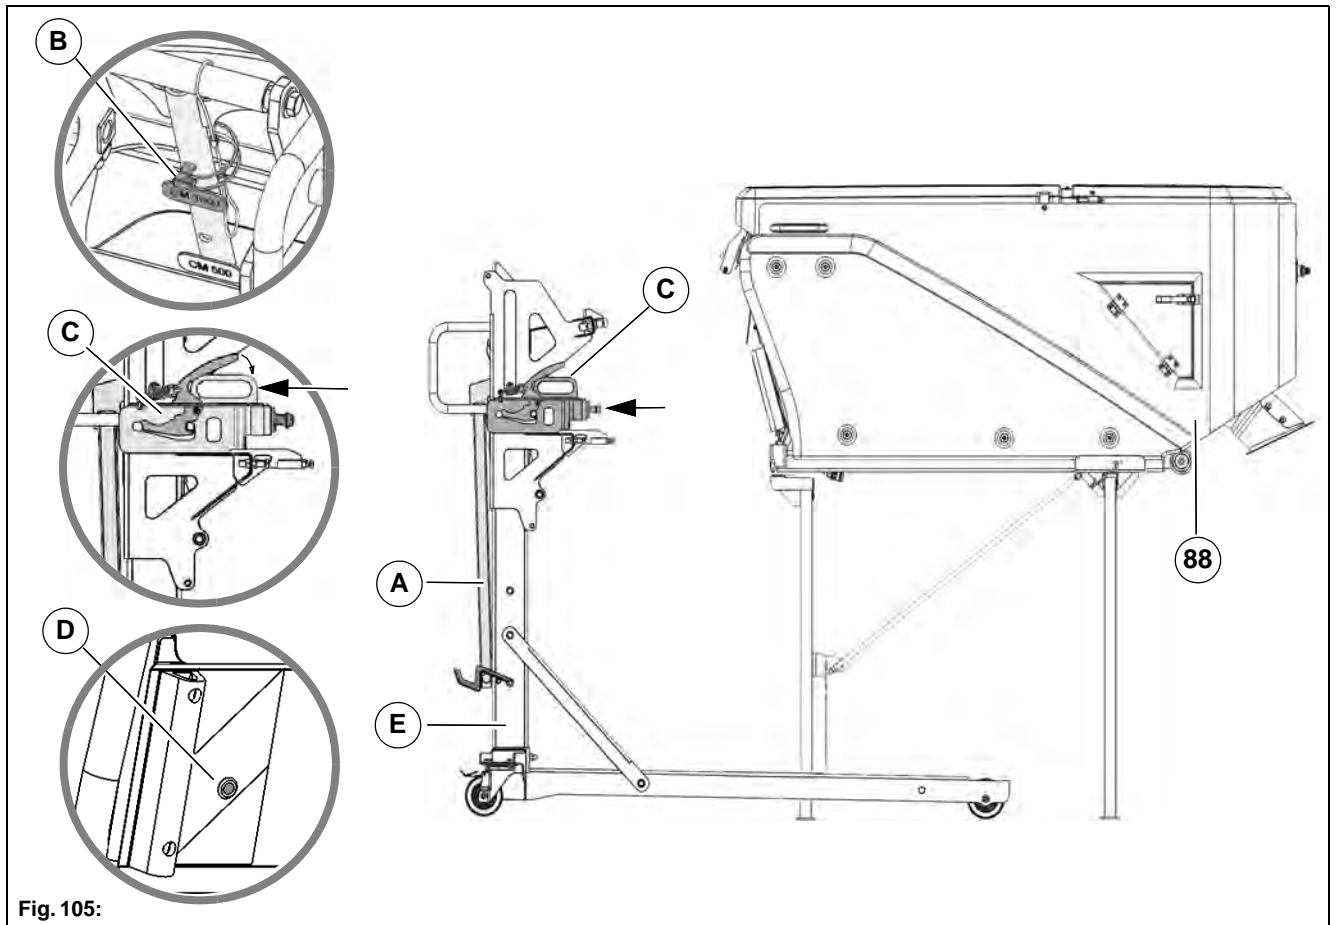

Fig. 105:
2. Unlock the lever **Fig. 105-A** of the trolley **Fig. 105-E** (optional) and swing it into the upper position.
3. Hold the lever **Fig. 105-A** in the upper position with one hand. With your other hand plug the mounting bolt **Fig. 105-B** on the Citymaster 1600.
<p>Danger Risk of injury! The lever Fig. 105-A can swing over.</p>
4. Unlock the sledge **Fig. 105-C** with the lever and push it into the rear position.
5. Open the lock of the lid on the dirt hopper **Fig. 105-D** and swing the lid up.